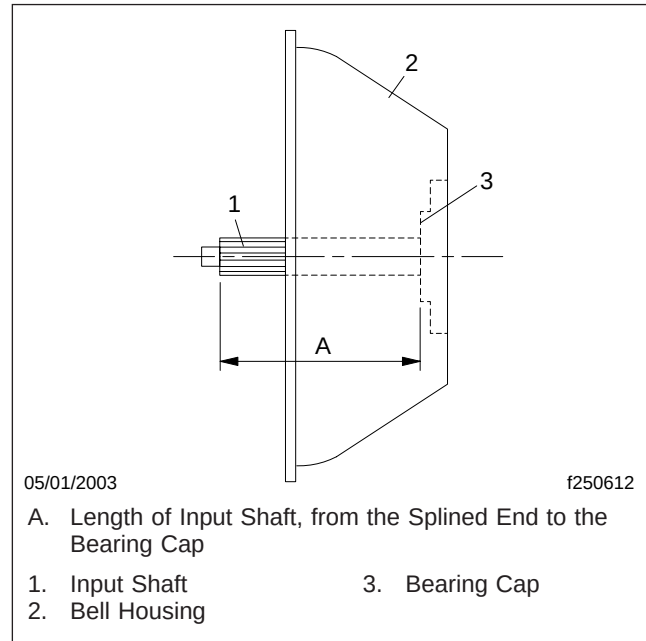

Fig. 14, Measuring the Input Shaft
7. To prevent clutch brake wear, check the input-shaft bearing cap, as follows, and measure it as shown in **Fig. 14**.